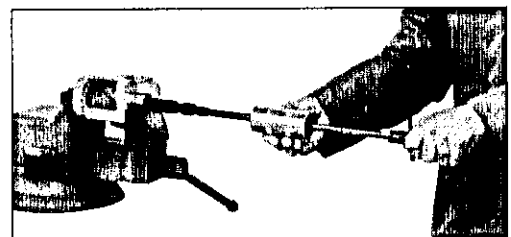

Figure 10: Extraction of Bearing (18)
J. If the bearing (18) is damaged in service, remove it by means of a blind hole bearing puller or equivalent. (see figure 10).